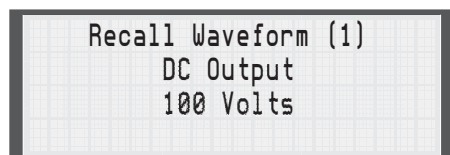

Fig. 5.9
1. Press the Recall key and use the up and down arrow keys to scroll forward or backward through the stored list of setups. The display will show one setup at a time (**Fig. 5.9**). When the end of the waveform list is reached, the LR-24 will wrap around to the beginning of the list.